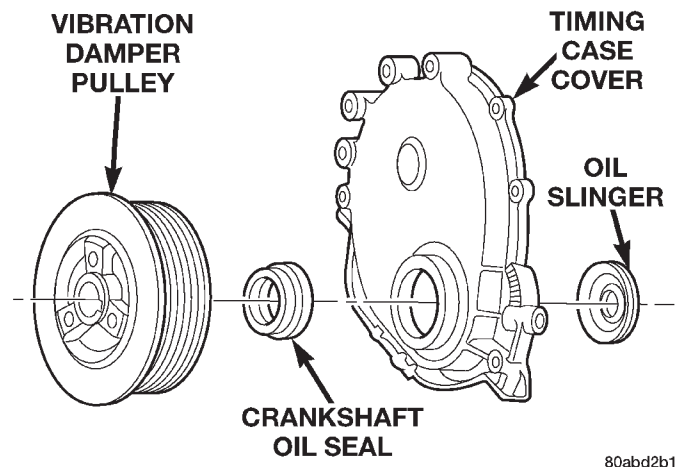

Fig. 41 Timing Case Cover Components
- (1) Disconnect negative cable from battery.
- (2) Remove the vibration damper.
- (3) Remove the fan and hub assembly and remove the fan shroud.
- (4) Remove the accessory drive brackets that are attached to the timing case cover.
- (5) Remove the A/C compressor (if equipped) and generator bracket assembly from the engine cylinder head and move to one side.
- (6) Remove the oil pan-to-timing case cover bolts and timing case cover-to-cylinder block bolts.
- (7) Remove the timing case cover and gasket from the engine.
- (8) Pry the crankshaft oil seal from the front of the timing case cover (Fig. 41).